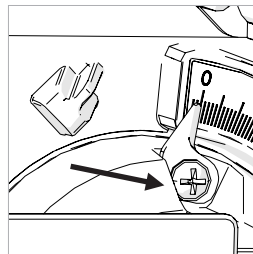

Fig. 24
- Loosen the Bevel Pointer screw using a #2 Phillips screwdriver. (Fig. 24)